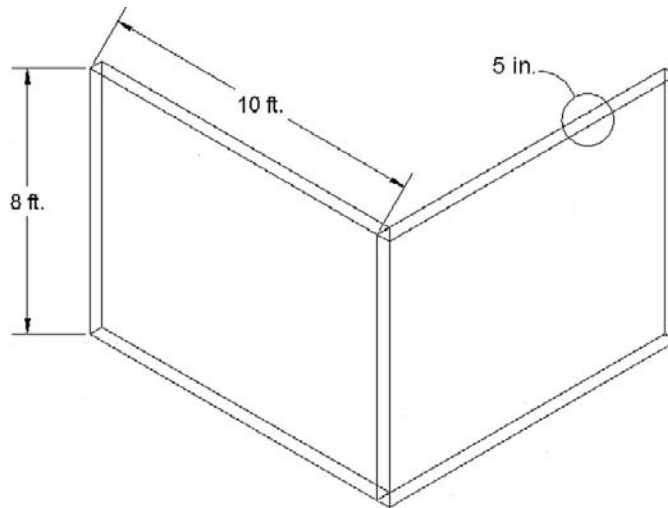

FIGURE 24.11
Step 1. Draw two walls that are 8' high and 10' long, with a thickness of 5". One way to do this is to first draw a rectangle that is 5" × 10' and extrude it to 8'. Then, copy the structure and reattach the copy at 90° to the original wall. Figure 24.11 shows what you should see in wireframe mode.